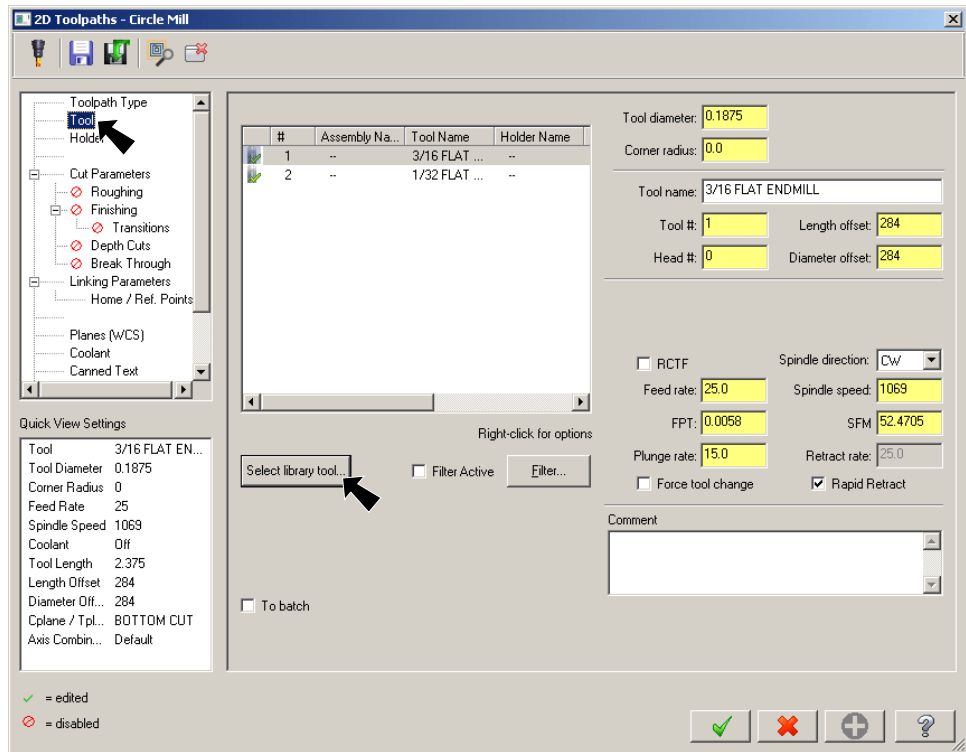

Fig. 95
Step 6. Select **Tool** from tree control and click **Select library tool** **Fig. 95.**